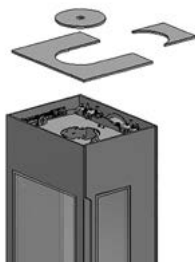

Fig. 6a
1. To do this, remove the top cladding parts from the top plate. (Fig. 6a).